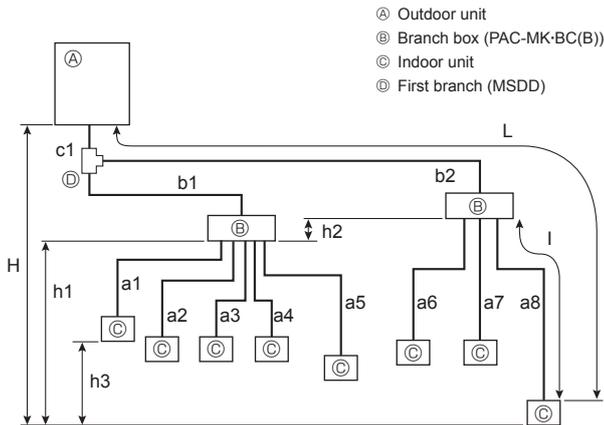

Fig. 4-2
4.1.2. Connection with Branch box (Fig. 4-2)